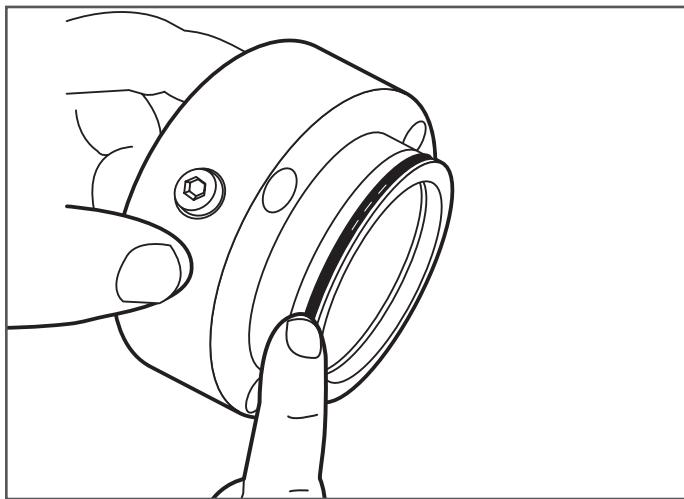

Figure 7-13
**14.** Ensure outer o-ring is not damaged or torn (Figure 7-13).